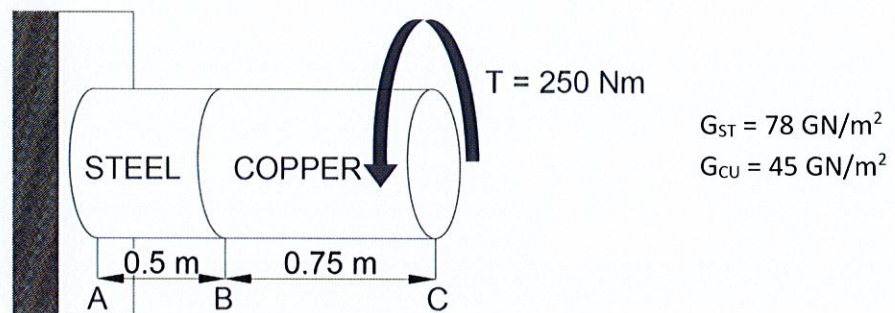

Figure 4(c) / Rajah 4(c)
- CLO2 (c) Figure 4(c) depicts steel bar with a diameter of 50 mm and a length of 0.5 m connected in series to a copper bar. The copper bar has same diameter with steel bar and their length of 0.75 m. Both the bar carries a torsional load of 250 Nm. Consider the modulus of rigidity for  $G_{\text{copper}}$  is 45 GN/m2 and  $G_{\text{steel}}$  is 78 GN/m2. Compute: